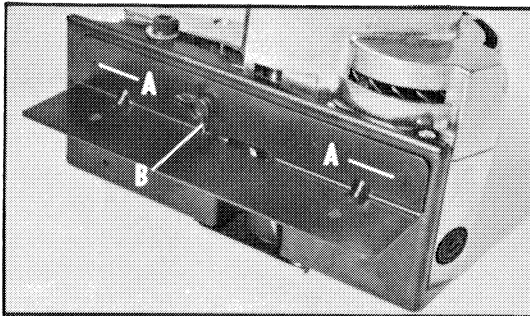

Fig. 6
1. Position fence on plane base so bosses (A) Fig. 6, on fence nestle in the small holes in the base.
2. Insert wing screw (B) thru hole in fence and thread it into the plane base, as shown in Fig. 6.